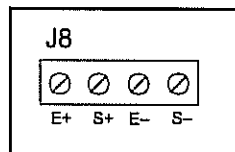

Figure 2-2: Connection assignments for the Load Cell Terminal (J8)
1. Connect your shielded load cell cable (not included) to terminal J8 on the main board. Connection assignments for the Load Cell Terminal (J8) are shown in Figure 2-2.